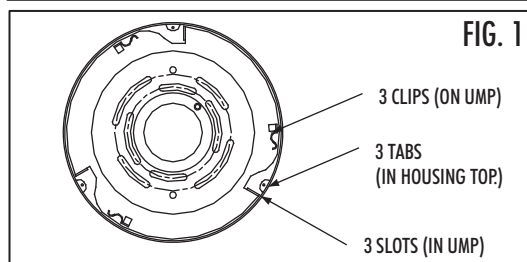

FIG. 1
7. Align the 3 tabs in the top of the housing with the 3 slots in the UMP (FIG 1). Place fixture housing on ceiling and turn housing counter clockwise to secure housing tabs in clips.